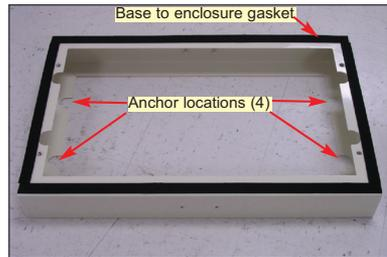

Fig. 8
- Position the enclosure base onto the pad (typically concrete). Assume that the (4) anchor locations in the enclosure base align with the anchor locations in the pad. After verification of the anchor alignment, remove the enclosure base from the pad (Fig. 8).